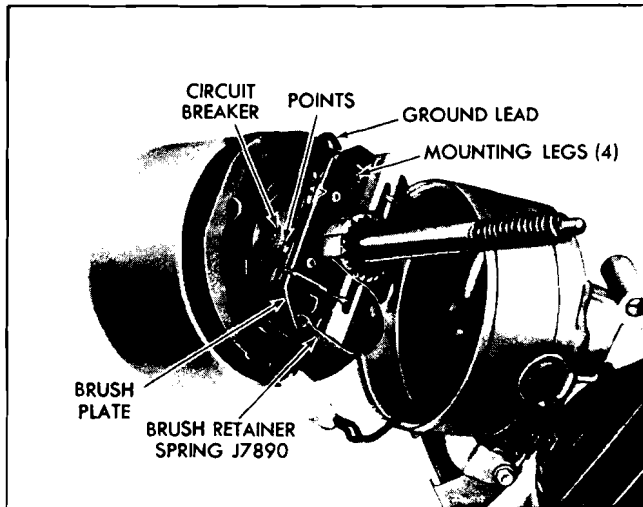

Fig. 12A-5 Retainer Holding Brush In Place
7. Install U shaped brush retainer clip J 7890 over brush holder that has brush lead attached to circuit breaker (Fig. 12A-5).